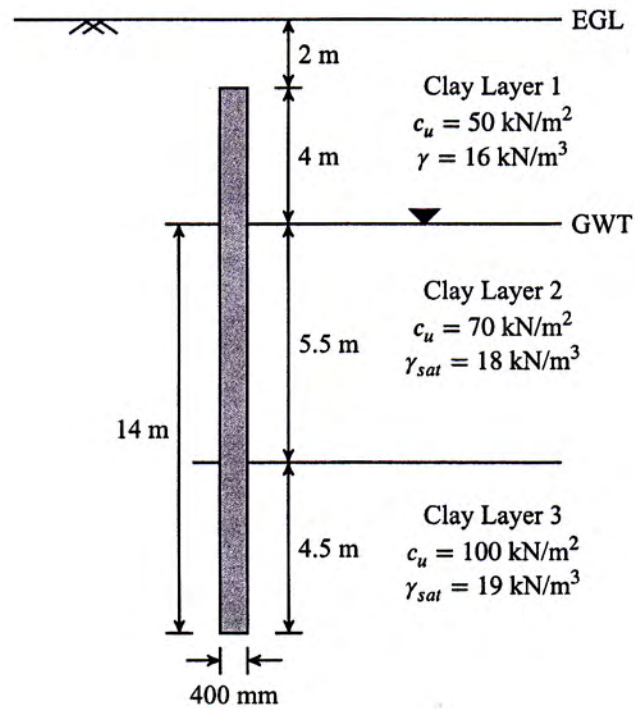

Figure 4: Question 2 (c)
- (c) An individual cast in situ concrete pile in soft saturated clay having a diameter (D) of 400 mm is shown in the following figure (Fig. 4). Calculate the ultimate frictional resistance (Q_s) of the pile by the α method. (6 $\frac{2}{3}$)